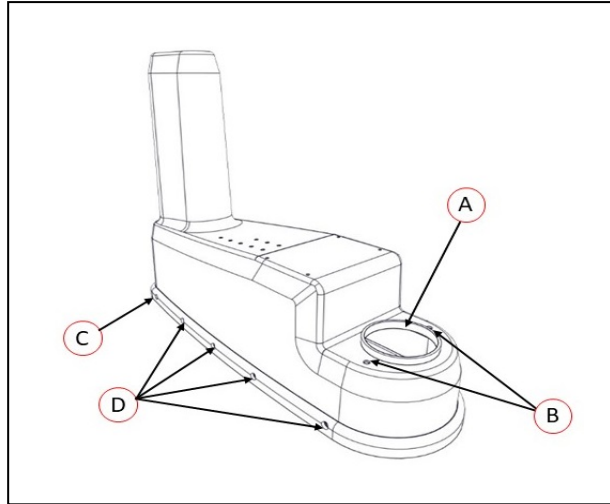

Figure 9-10. Cover Screw Removal
2. Thoroughly clean the outer link exterior to remove any dust or particles that might fall inside the robot when you remove the cover. Refer to Figure 9-10.
3. Unscrew the collar nut on the top of the outer link (A)
4. Remove two screws and nylon washers on the top of the outer link (B).
5. Remove two screws (one on each side) at the front of the outer link (C).